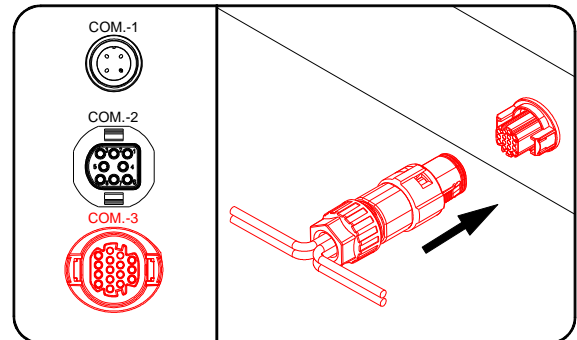

FIG 4-5 Insert the connector into the receptacle
- Step 4: Finally, insert the assembled connector into the Multifunctional communication receptacle (COM.-3) on the inverter, as per FIG 4-5.